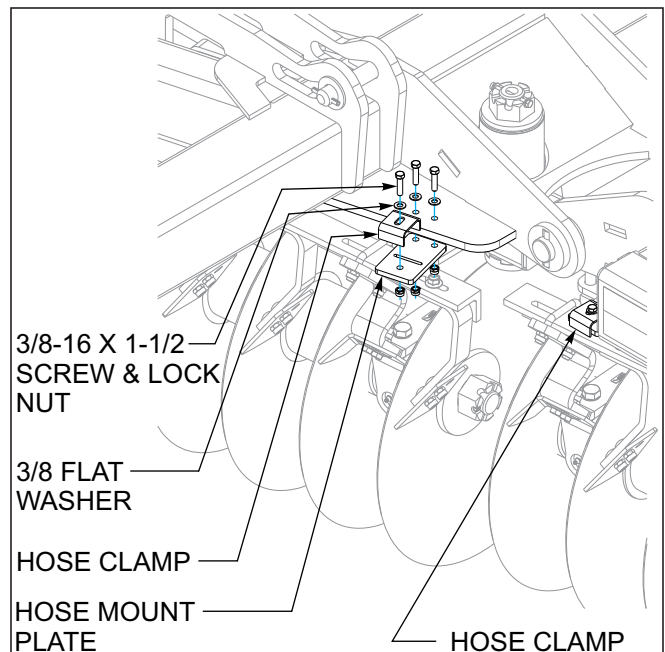

Figure 3-50: Hydraulic Reel Hose Clamp Installation
9. Install hose mount plate on bottom side of rear center and wing frame plates with two, 3/8-16 x 1-1/2 hex cap screw, 3/8 flat washer and 3/8-16 lock nuts, both sides (See Figures 3-50.) Install hose clamp with 3/8-16 x 1-1/2 hex cap screw, 3/8 flat washer and 3/8-16 lock nut.